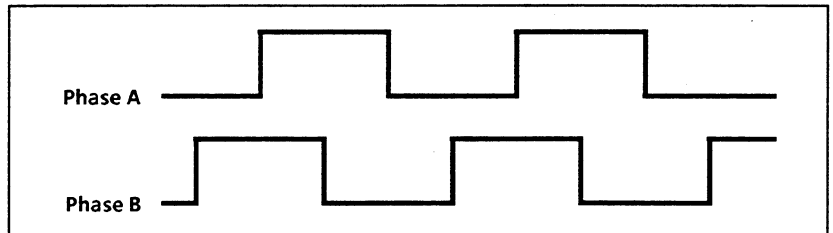

Figure 5 – Encoder Input
- 4. This procedure will select the direction of rotation that will produce a Fault. The circuitry is designed to detect a motion generated Fault when the Phase B encoder input leads the Phase A encoder input as shown in Figure 5.